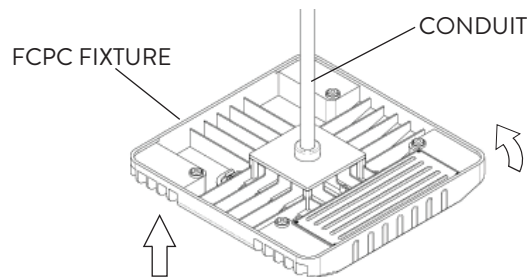

FIG. 10
- 2 The FCPC fixture can now be screwed into the 3/4" NPT Conduit (Fig. 10).